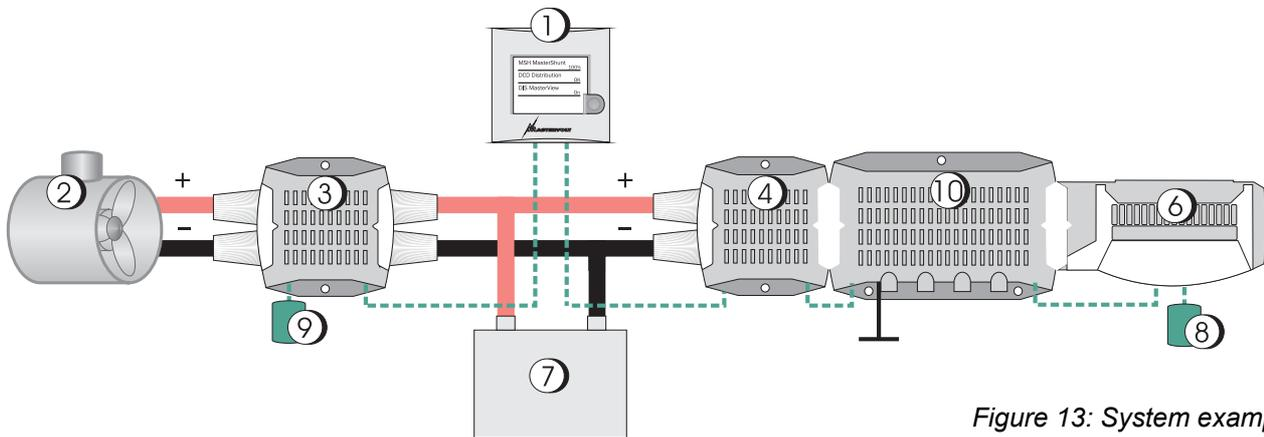

Figure 13: System example 2
battery, like shown. Figure 13 shows the parallel configuration of two MasterShunts (3) and (4) and other products.